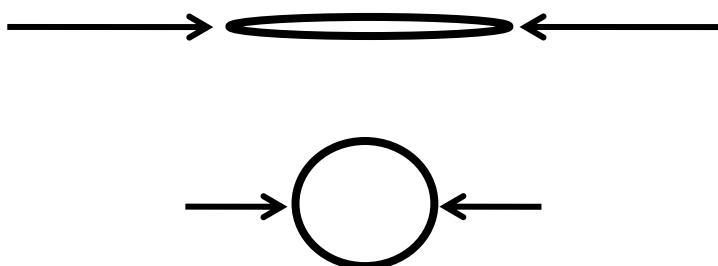

Figure 1 - 'Opening' the sleeve
- 'Open up' the sleeve by pressing across the open end of the flat sleeve as in Fig.1.